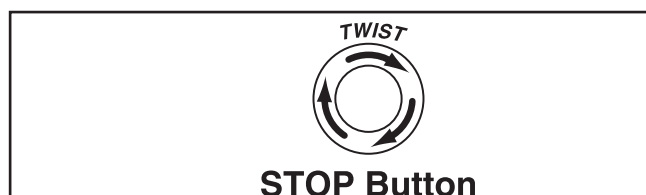

Figure 70. Resetting Emergency Stop button.
4. Push Emergency Stop button, then twist it clockwise so it pops out. When button pops out, switch is reset and will allow operation (see **Figure 70**).